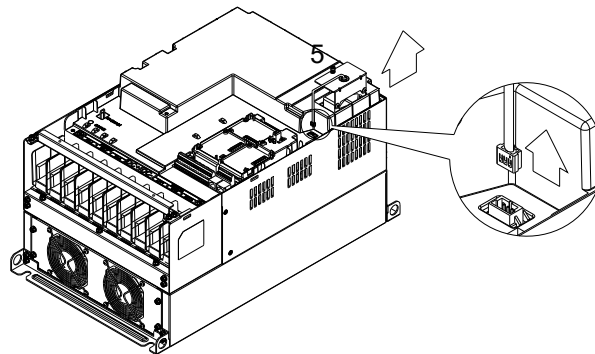

Figure 3
3. Loosen screw 5 (figure 3) and disconnect fan power and pull out the fan. (As shown in the enlarged picture 3) Screw 5 Torque: 10–12 kg-cm / [8.6–10.4 lb-in.] / [1.0–1.2 Nm]